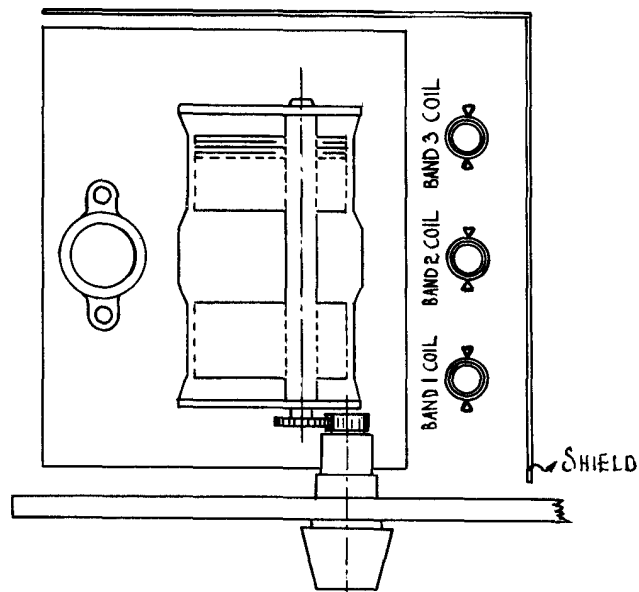

Fig. 7
6) Set the MARKER RANGE selector at position 3 and the MARKER OSCILLATOR to 22.5 mc (5th harmonic of the crystal). Adjust the marker oscillator coil slug for Band 3 (see Fig. 7 for location) for zero beat between the crystal and variable marker oscillators. The approach of zero beat will be indicated by an increased trace amplitude, signifying a high frequency beat signal coming into the band-pass of the scope; immediately adjacent to zero beat individual frequencies will be visible and exactly at zero beat the amplitude of the trace will drop to zero. These phenomena will be repeated in reverse order on the opposite side of zero beat. As there are strong crystal harmonics every 4.5 mc, you can not be sure that the variable oscillator is zero beating against the selected harmonic without checking. For this reason, the coil slugs have been pre-set in production at approximately the correct position, so that the zero beat that occurs when the coil slug is adjusted a few turns on one side or the other of the pre-set position should be with the desired 5th harmonic. However, this is not a certainty, and the adjustment of the coil slug must be checked by setting the MARKER OSCILLATOR dial at 27 mc (6th harmonic), 31.5 mc (7th harmonic), and 36 mc (8th harmonic), at all of which frequencies zero beat should occur again. If these checks